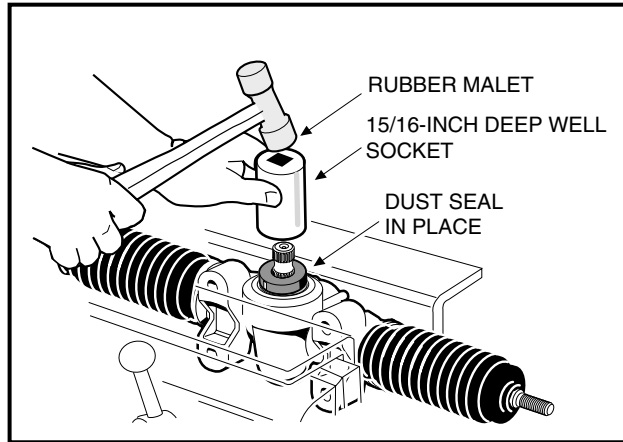

Figure 7-21 Press In Dust Seal
5. Using a socket to apply pressure evenly, press in a new dust seal **(Figure 7-21, Page 7-14)**.